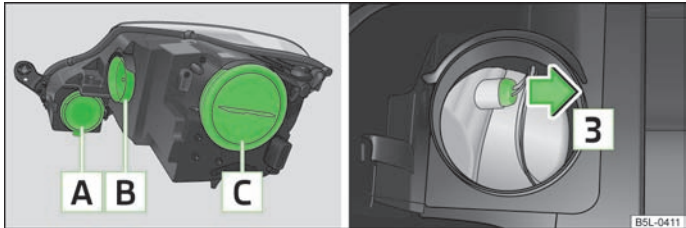

Fig. 169 Headlights: Removing the bulb arrangement/fixture for the parking light (Xenon headlight)
Overview of the location of the bulbs » Fig. 169.
- Remove the rubber cover **B** » Fig. 169.
- Remove the fixture in the direction of arrow **3** » Fig. 169.
- > Remove the rubber cover **A** » Fig. 169.